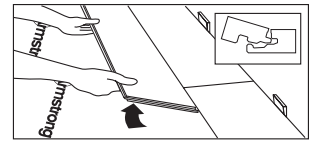

Figure 13
- Install the long end of the first board at an angle to the board in the previous row. Keep this board at its natural angle slightly raised off the subfloor (Fig. 13). Use a scrap piece of laminate to support the row if needed.